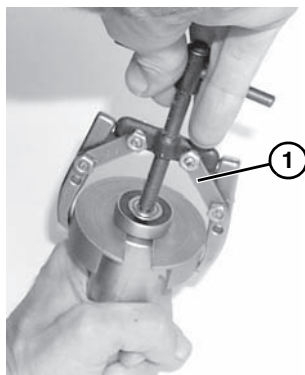

Figure 58
2. Using a puller (**Figure 58, item 1**), remove and discard bearing.